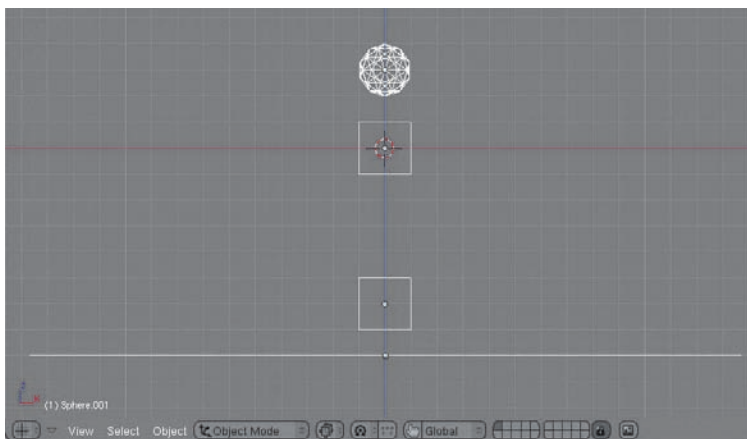

Figure 6.28 Setting up the rigid body scene
1. Set up a scene as shown in Figure 6.28, with the default cube in its original position. Add the following objects at the original cursor location, and move them along the Z axis while holding down the Ctrl key: